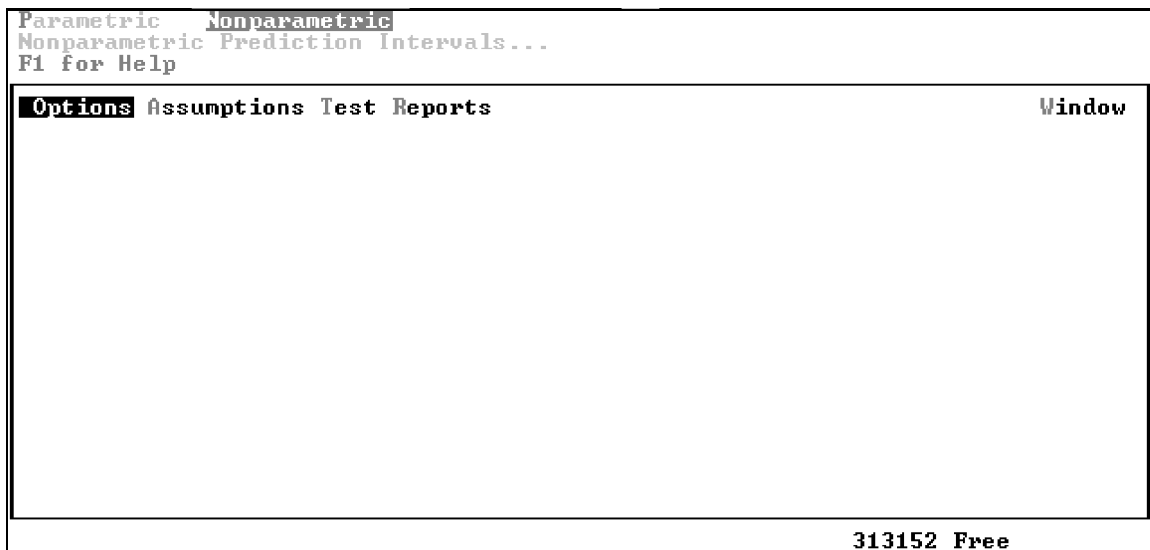

Figure 5-79. The Non-parametric Prediction Interval Menu.
5. Press <N> to execute the NonParametric option. The Non-parametric Prediction Interval Menu appears on your screen as shown in Figure 5-79.